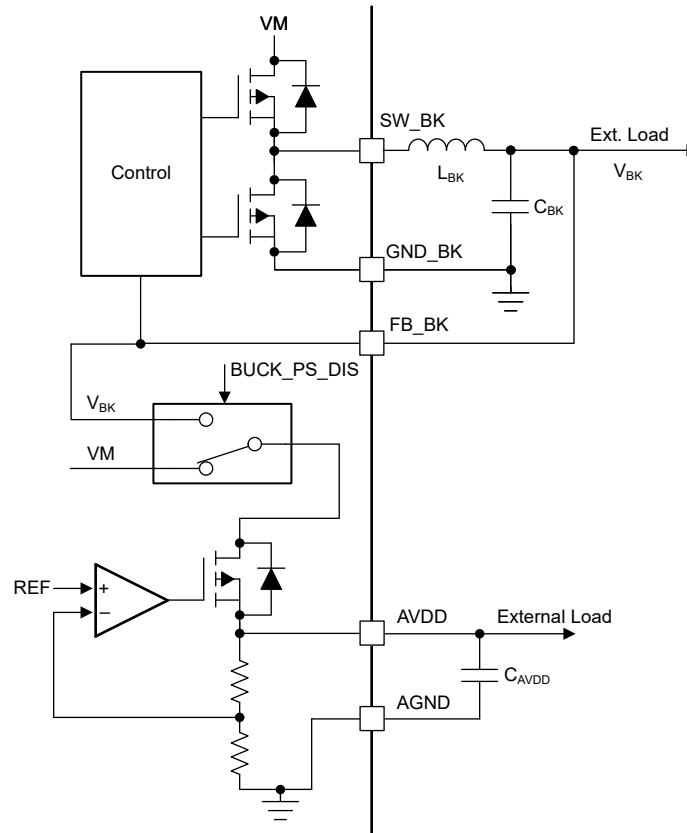

图 8-11. AVDD Power Sequencing on mixed mode Buck Regulator
The AVDD LDO has an option of using the power supply from mixed mode buck regulator to reduce power dissipation internally. The power sequencing mode allows on-the-fly changeover of LDO power supply from DC mains (VM) to buck output (VBK) as shown in 图 8-11. This sequencing can be configured through the BUCK_PS_DIS bit. Power sequencing is supported only when buck output voltage is set to 5.0 V or 5.7 V.